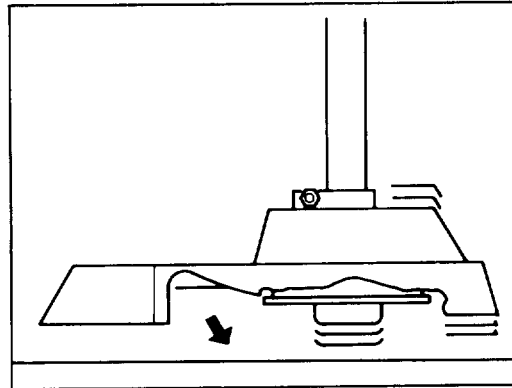

Figure 8
LENGTHENING CUTTING LINE (Fig. 8)
1. To lengthen line, firmly tap spool on the ground while the engine continues to run at normal cutting RPM (Fig. 8). The line will be fed from the spool and cut off to the proper length by the cutting knife attached to the shield.